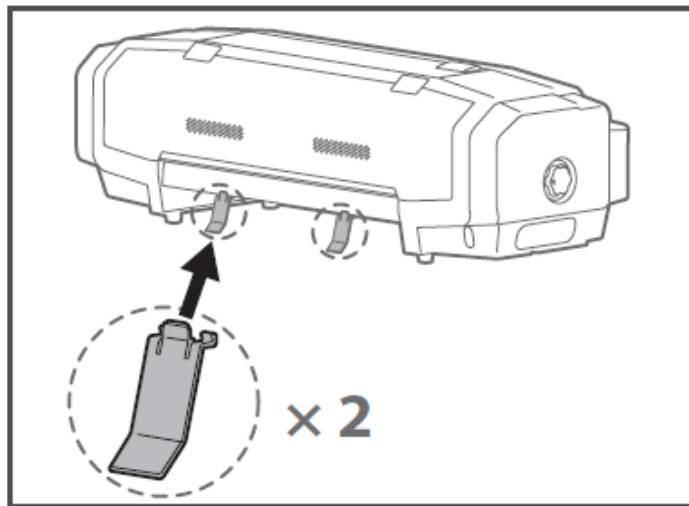

Figure 7
9. Install the two media guides in the positions shown below. See Figure 7.